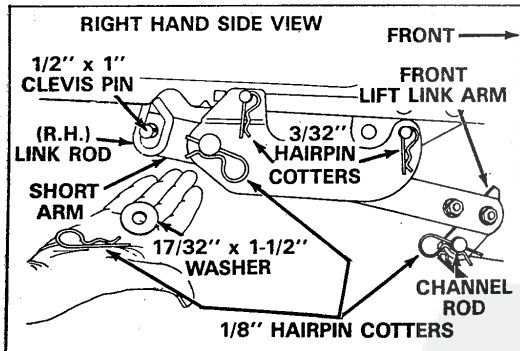
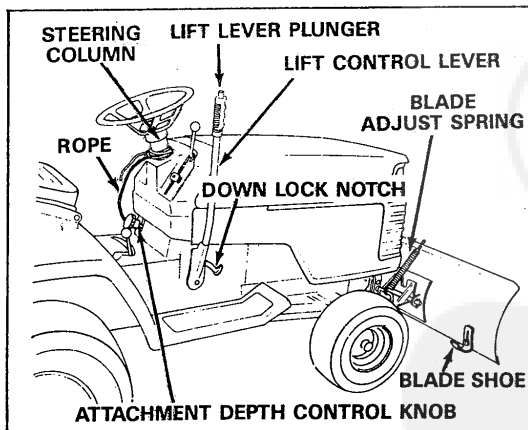

FIGURE 15
FIGURE 18
- Move tractor lift control lever all the way back and lock in position. See figure 18, page 8.
- Move tractor lift control lever forward (see figure 18, page 8) to lower link rods **outside** of short arms on lift assembly. See figure 15.
- Assemble one $1/2'' \times 1''$ clevis pin from **inside** through short arm through right hand link rod, and through one $17/32'' \times 1-1/2''$ washer. Secure with one $1/8''$ (large) hairpin cotter on **outside**. See figure 15.
- Secure rope to top hole in angle lock bars. See figure 17. Thread rope as shown under left hand side of tractor, proceeding **over** pivot shaft, inside left hand hitch plate, between the steering link rod and tie rod, continuing outside of frame up to tractor steering column. See figure 18, page 8. Tie rope securely to steering column, taking up most of the slack in rope.
Located on right hand side of tractor. See figure 18. Move lever forward to lower snow blade. Pull lever back to raise and lock snow blade.
Located on top of lift control lever. See figure 18. Pull back on lift control lever and depress plunger to release.
Adjust lift control lever movement with attachment **DEPTH CONTROL KNOB** (see figure 18) for **maximum movement** between locking notches and to prevent lever from locking in the down lock notch. See figure 18.
Blade shoes on ends of blade, (see figure 18), may be raised for close work on smooth surfaces or lowered to raise the blade to work on rough or uneven areas. Make sure both shoes are set evenly and nuts are tightened securely.